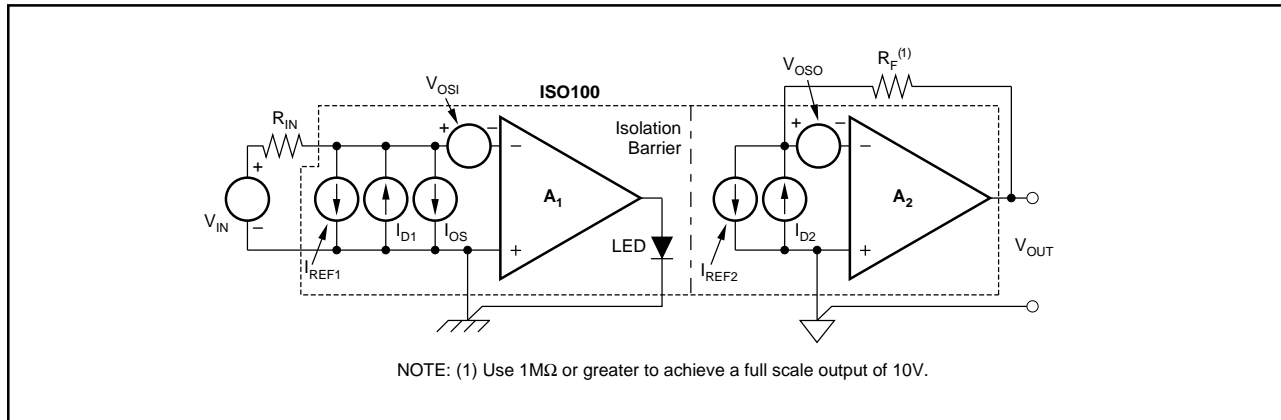

FIGURE 2. Circuit Model for DC Errors in the ISO100.
Errors in the ISO100 take the form of offset currents and voltages plus their drifts with temperature. These are shown in Figure 2.
**Example 1.** Refer to Figure 2 and Electrical Specifications Table.